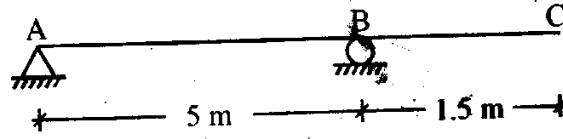

Fig. 3
- (b) For the overhang beam shown in Fig. 3, draw the influence lines for the reaction at support B and bending moment at a section 2 m away from left support A. Hence, determine their maximum values for a point load of 75 kN moving over the beam from left to right.